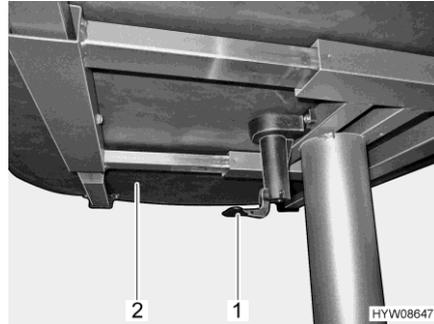

Fig. 55 Lever for moving the table top
- Pull or press down the lever (Fig. 55,1).
- Move the table top (Fig. 55,2) to the desired position.